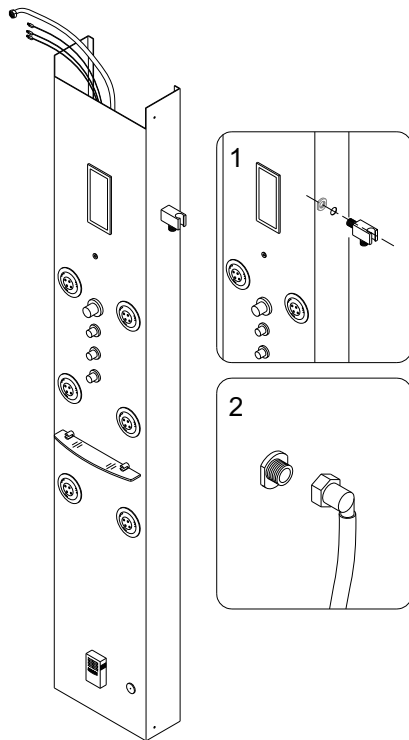

Fig. 9
2. Fasten the **Hand shower union (37)** on the side of the **Shower column (11)** and connect the hose. See fig. 9 for details.
3. Refer to fig. 9 put the shower column in place and level it vertically. Locate the holes position for the **Column Wall Brackets (35)**. Drill the holes and insert the **Wall anchors (27)**. Attach the **Column Wall Brackets (35)** to the wall using the **Round head screw ST4.2x30 (22)**.